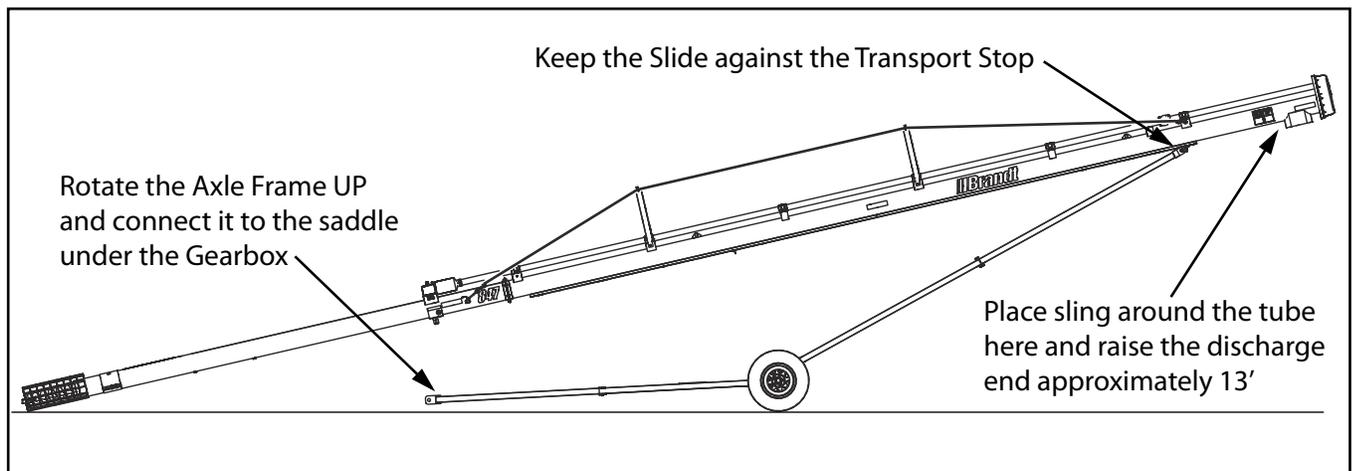

FIG. 3-17. Raising the Auger
17. Wrap a sling around the discharge end of the tube where shown in Fig. 3-17. Using a front end loader or a crane, raise the discharge end approximately 13' off the ground.